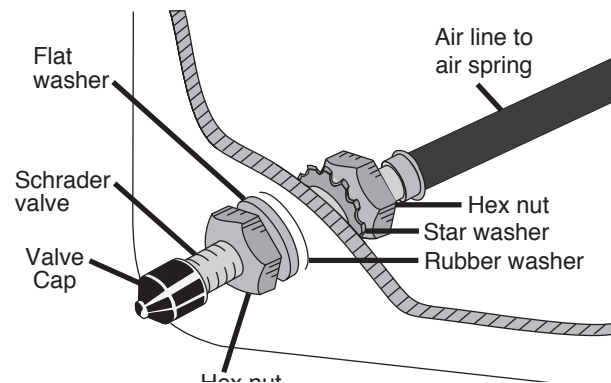

fig. 16
5. Push the inflation valve through the hole and use the rubber washer, flat washer and another 5/16" nut to secure it in place (Fig. 16). Tighten the nuts to secure the assembly.